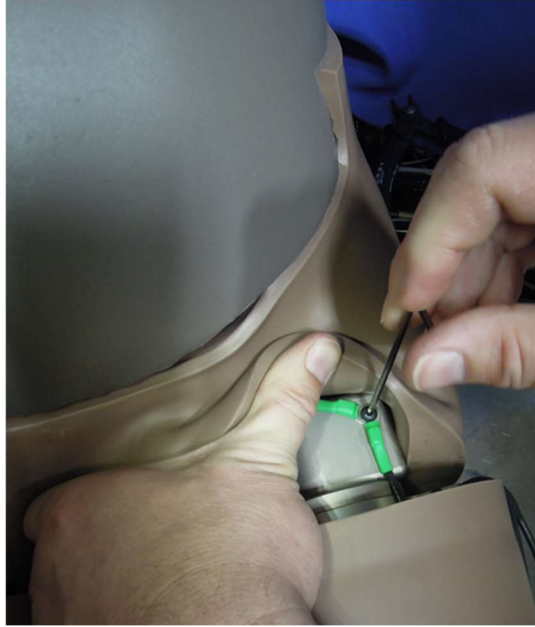

Figure 9-8. Remove the ground cable from the top of the Femur Assembly (474-4700-1).
- 9.2.1 Remove the ground cable from the top of the Femur Assembly (474-4700-1,2) (Figure 9-8).